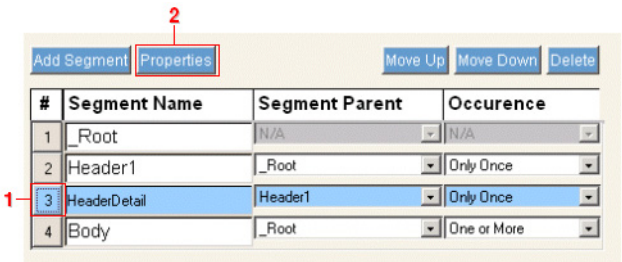

Figure 9-12. To define the fields within a segment, select the segment number, then click the **Properties** button.
- 1 Select the desired segment by clicking its number. The segment entry should highlight, as shown in Figure 9-12 below.